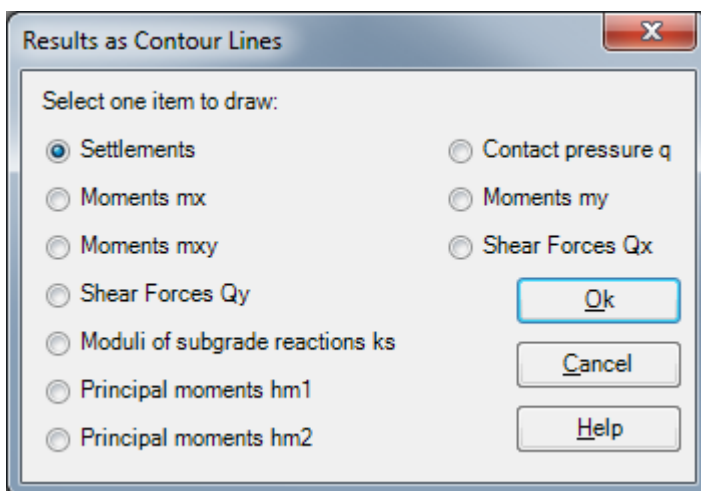

Figure 3.43 "Results as contour lines" option box
- The following option box in Figure 3.43 appears